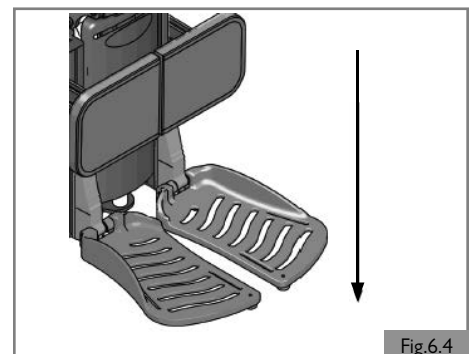

Fig.6.4
Lower the centermount foot plate (Fig. 6.4)
4. Push the joystick forward until the footplates rest fully on the ground. (Fig. 6.4)